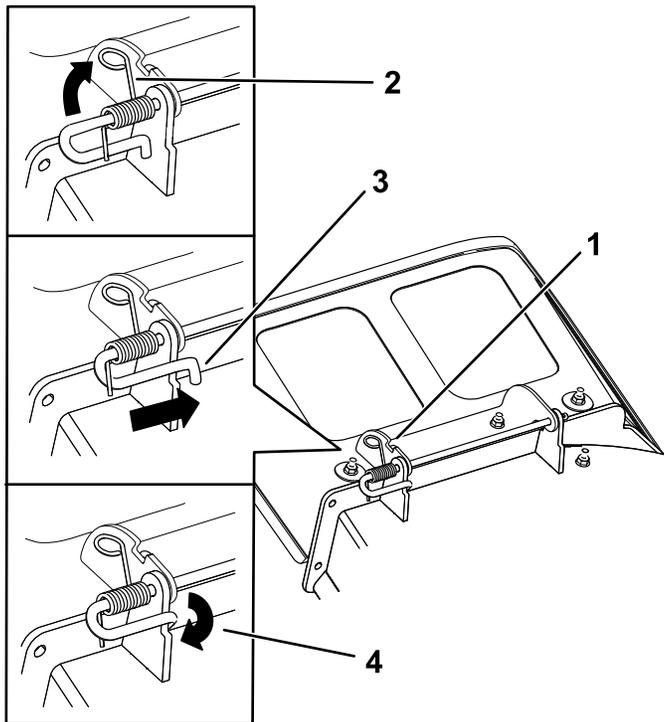

Figure 79
3. Position the new discharge deflector with the bracket ends between the welded brackets on the deck as shown in Figure 79.
5. Position the spring on the rod as shown in Figure 79 so that the shorter spring end comes from under the rod before the bend and going over the rod as it returns from the bend.
6. Lift the loop end of the spring and place it into the notch on the deflector bracket (Figure 79).
7. Secure the rod and spring assembly by twisting it so that the short end of the rod is behind the mower bracket welded to the deck (Figure 79).